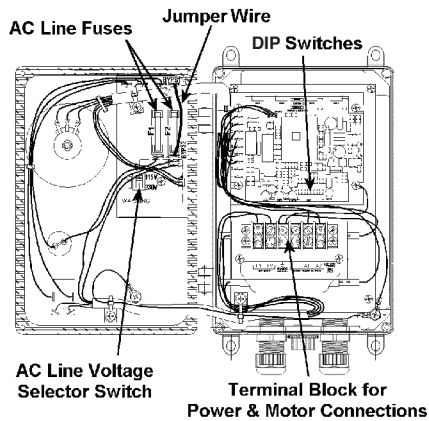

Figure 4 - Inside layout of control.
**DIP SWITCHES FOR MOTOR MATCHING** – Figure 4 shows a bank of 8 DIP switches, factory-set with 4, 5, 6, and 7 ON. Set switches 1-7 to match the type, voltage, armature speed (not output speed of geared motor), current, and horsepower ratings on the Bodine motor nameplate per Table 3. For non-Bodine motors, or Bodine motors not listed in Table 3, identify the motor in Table 3 with the closest voltage, armature speed, current, and horsepower ratings and use those DIP switch settings. Leave switch 8 OFF for 0-90 VDC output or switch it ON for 0-180 VDC output (with 230 VAC input only).